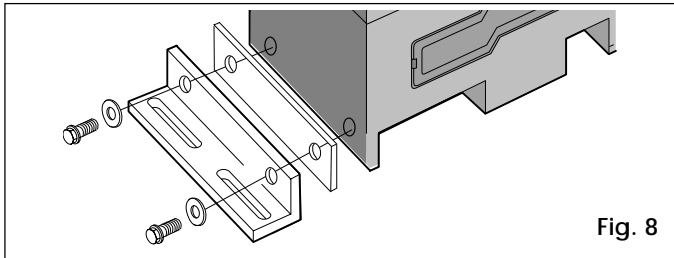

Fig. 8
- 1) Fix the angle bars and the vibration dampers to the operator as shown in Fig. 8.